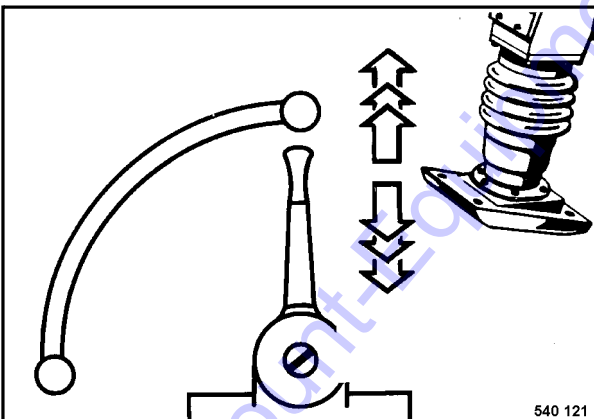

Fig. 5
- Shift the throttle lever (Fig. 5) to MAX-position.